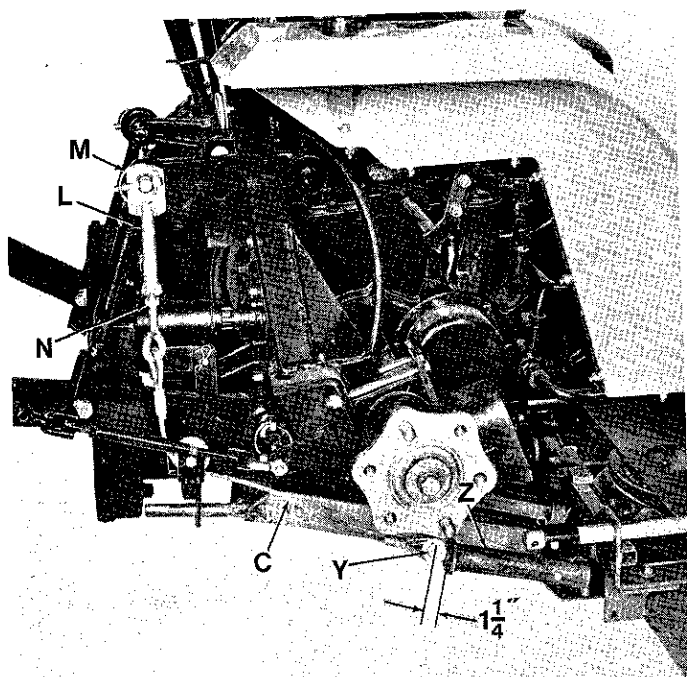

FIG. 19
When mower is lowered to ground and there is not tension on the lift cable (C) the dimension between the center of clevis bolt (Y) and the face of spring housing (Z) is Approximately 1-1/4". (See Fig. 19) When mower is raised to up stops, tension on the lift cable (C) should increase this 1-1/4" dimension to approximately 1-5/8" but must not exceed 1-3/4". If the dimension exceeds 1-3/4" the tension on lift cable (C) must be decreased.
2. Remove klik pins (M) from upper lift arms of three point hitch and remove adjustable lift links (L) from both sides of tractor (See Fig. 19)
3. Loosen jam nuts (N) of both adjustable lift links (L).
4. Turn adjustable lift links (L) two to three turns longer to decrease cable tension or shorter to increase cable tension. Both adjustable lift links (L) must be adjusted evenly.
5. Re-install adjustable lift links (L) to lift arms and re-install klik pins (M).
7. If correct movement is not attained lower mower, remove, adjust, and re-install adjustable lift links (L) until correct movement is attained on both sides of the tractor.
8. When adjustment is completed tighten jam nuts (N).